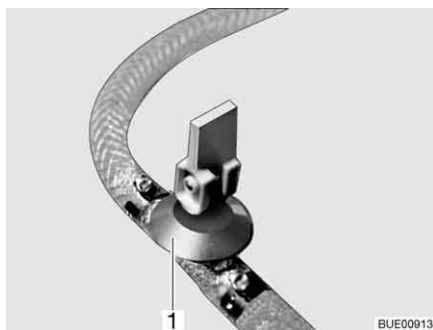
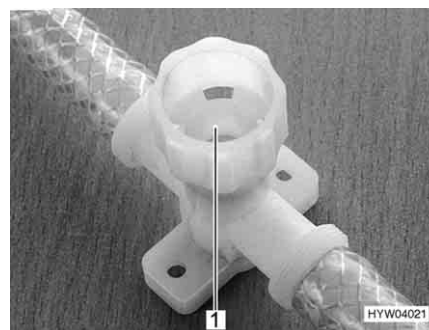

Fig. 210 Drain cock (with rocking lever)
Fig. 211 Drain cock (with twist cap)
- Open all drain cocks. To do this, position the drain cock's rocking lever (Fig. 210,1) vertically or turn the drain cock's cap (Fig. 211,1) in an anti-clockwise direction.